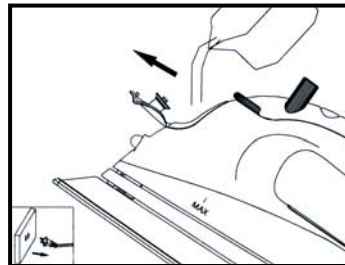

Fig. 1
1. Open the water filling inlet cover. Holding the iron at a slight angle, pour water slowly into the water filling inlet. (Fig.1) Fill tank to desired level or to the "MAX" water level marking using the water filling flask. (When the iron is upright, the see-through water tank allows you to gauge the amount of water.)